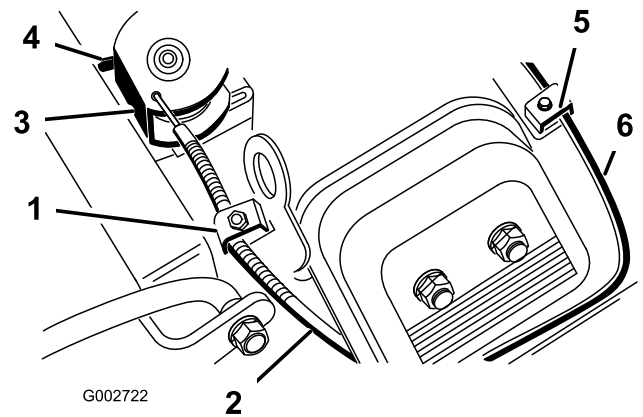

Figure 28
2. Loosen the cable clamp screw securing the cable to the engine (Figure 28).
4. Pull firmly on the throttle cable until the back of the swivel contacts the stop (Figure 28).
4. Pull firmly on the choke cable (Figure 28) until the choke butterfly is completely closed; then tighten the cable clamp screw.